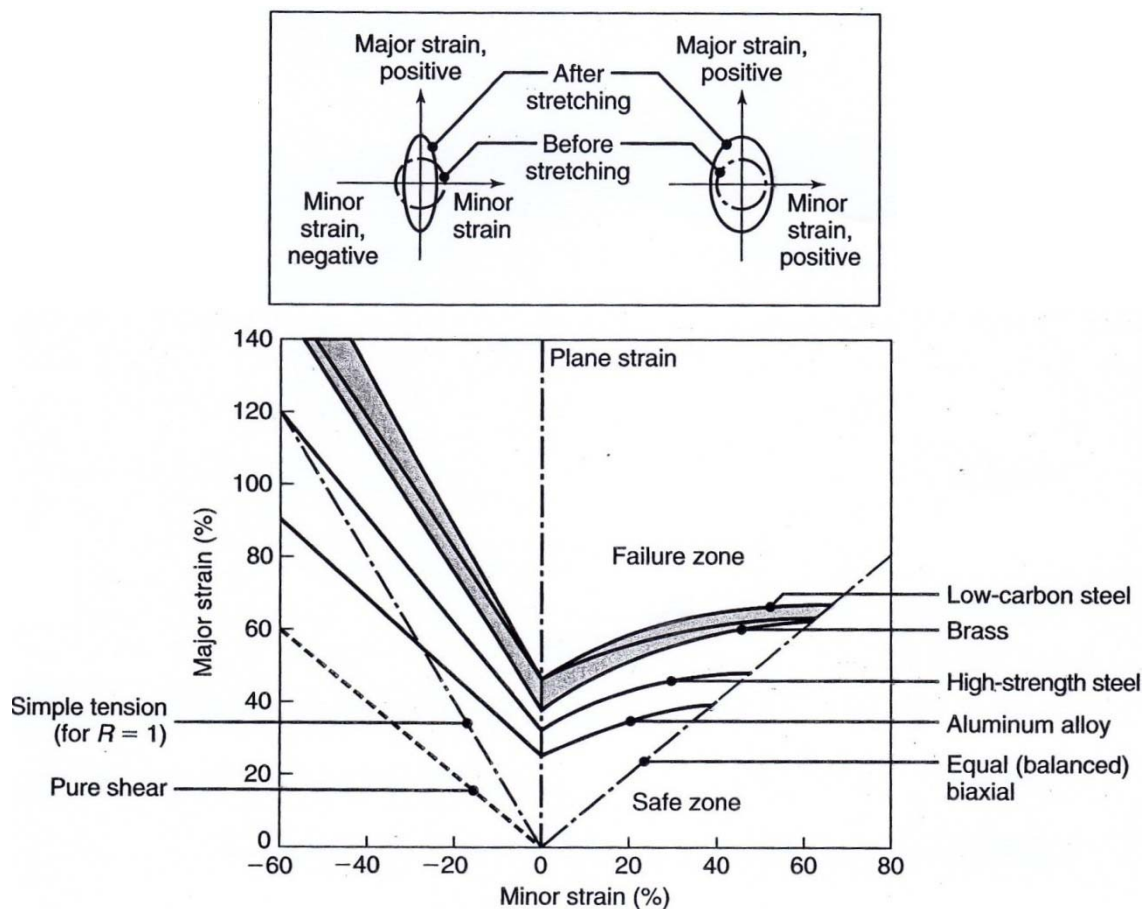

Figure Q4[b]
- [b] Construction of forming-limit diagram (FLD) is important in testing the formability of sheet metal. Figure Q4[b] shows the plotted FLD and the curves represent the boundaries between failure zones and safe zones. Analyze the effect of thickness on FLD by taking Aluminium alloy as the example.